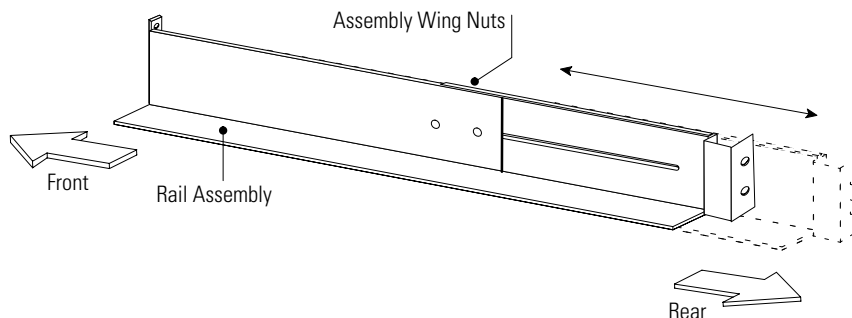

Figure 9. Adjusting the Rail Depth
1. Loosen the assembly wing nuts on both rail assemblies and adjust the rail size for the depth of your rack (see Figure 9).